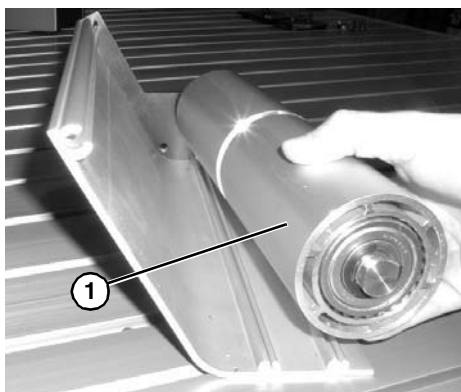

Figure 73
5. Slide the idler pulley assembly (**Figure 73, item 1**) out of the idler guide side plate on the opposite side.